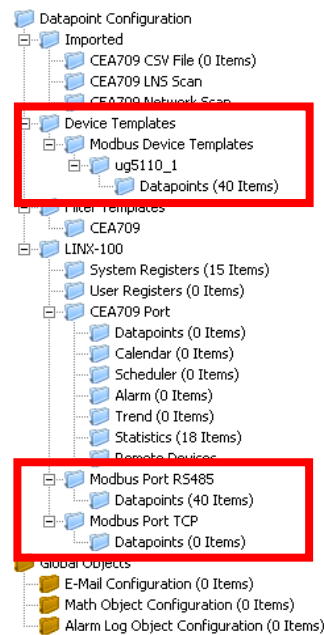

Figure 208: Data Point Manager Dialog with Modbus folder list.
- The folder list (Figure 208),